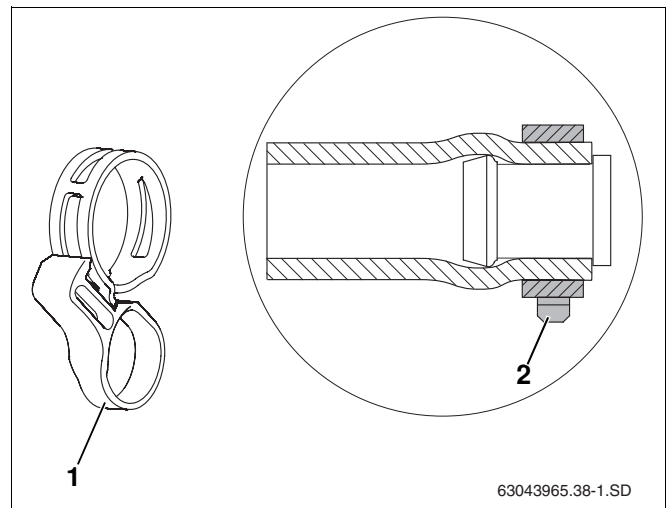

Fig. 36 Hose clip with release ring, also shown fitted to the pre-assembled dummy plug
- The hose clip **MUST** be positioned correctly **BEFORE** the release ring (Fig. 36, **Item 1**) is removed (Fig. 36, **Item 2**). Subsequent loosening using pliers can impair resilience.